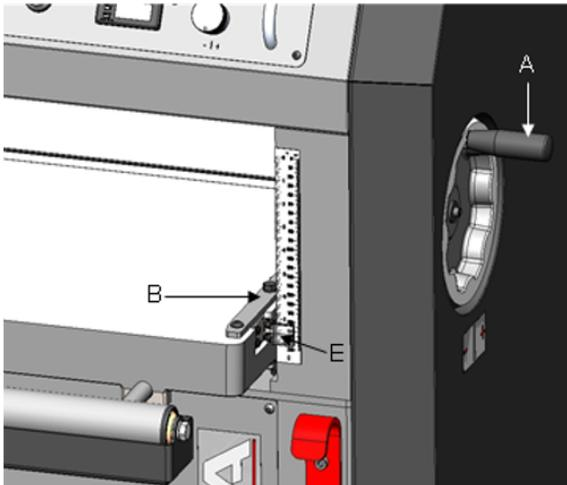

FIGURE 8: THICKNESS SCALE CALIBRATION
2. Use the Table Height Adjustment handle (Fig. 8, A) to raise the table until the infeed roller is approximately 1/16” above the calibrating board.
8. Loosen the two screws of the Thickness Scale pointer and adjust the pointer (Fig. 8, B) until it corresponds to the measured thickness and tighten the screws.